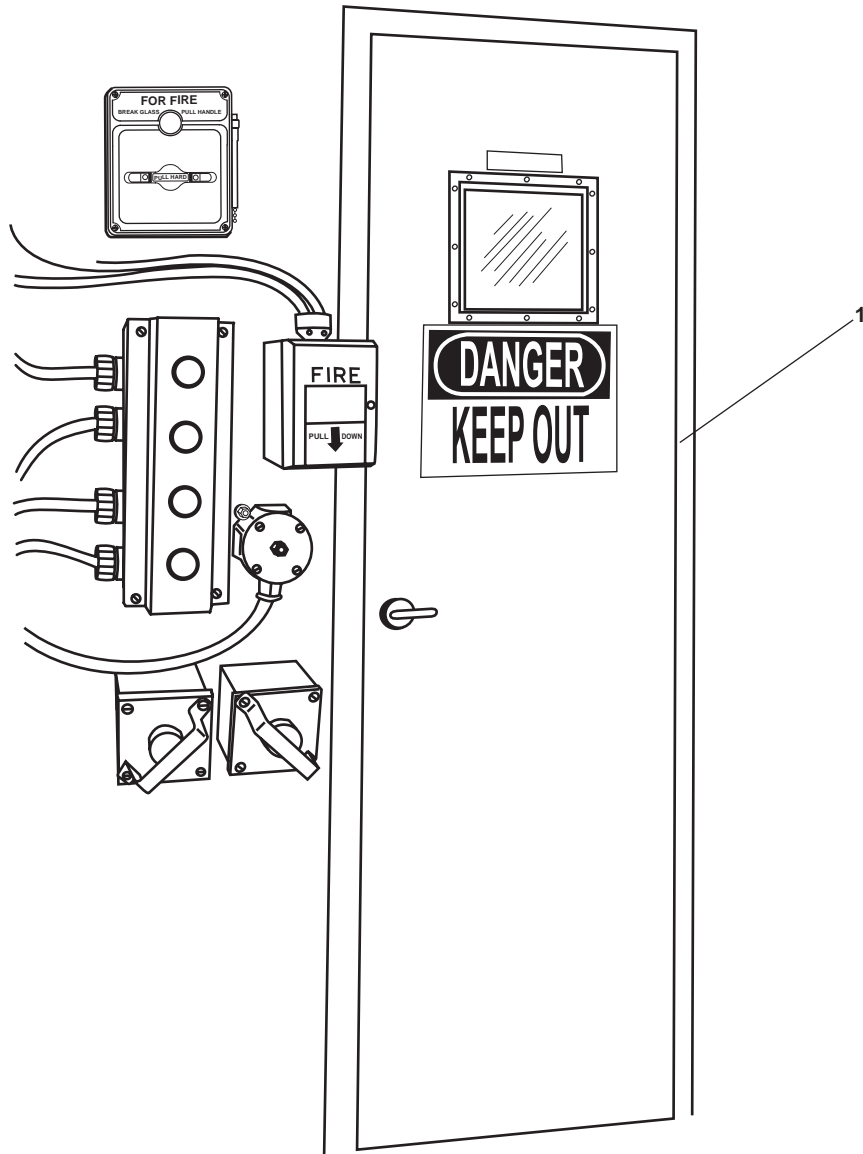

Figure 7. Engine Room Entrance Door
- g. Engine room entrance door engine room vestibule (figure 7, item 1)